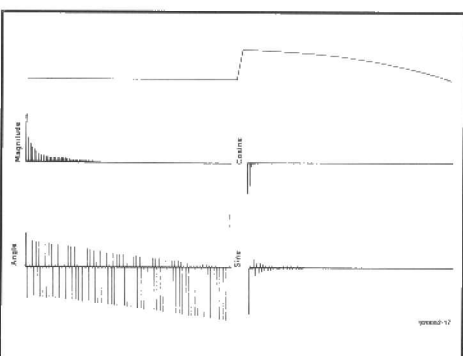

Fig. 6. Controlled (full) rectified wave.
*Wave V* is a full-wave rectified wave under phase control, resulting practically in a variable DC source. At a 50% control ratio, the DC level is 67% and the harmonic content is worse than in Wave III. The Fourier analysis is plotted in Fig. 6. Although this yields a variable DC source, there is a problem in the filter selection: the smoothing capacitor chosen must be capable of by-passing high frequencies up to five times the supply frequency.